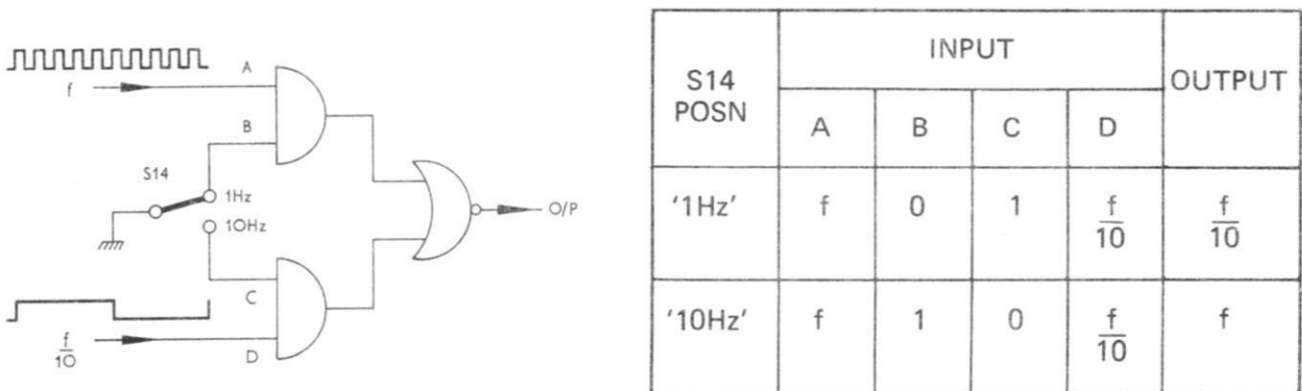

Fig. 2.7 Circuit and truth table for AND-OR INVERT GATE
4. Only the outputs available from the last two dividers are used in the operation of the counter control circuits, selection of the appropriate frequency being a function of the 1Hz/10Hz READ-OUT SWITCH S14. Switching is not direct but is accomplished by means of the AND-OR INVERT GATE IC108 which in effect by-passes the final decade (IC107) when S14 is set to the '10Hz' position. The action of this gate is summarised in Fig. 2.7 which shows the basic circuit configuration and corresponding truth table.